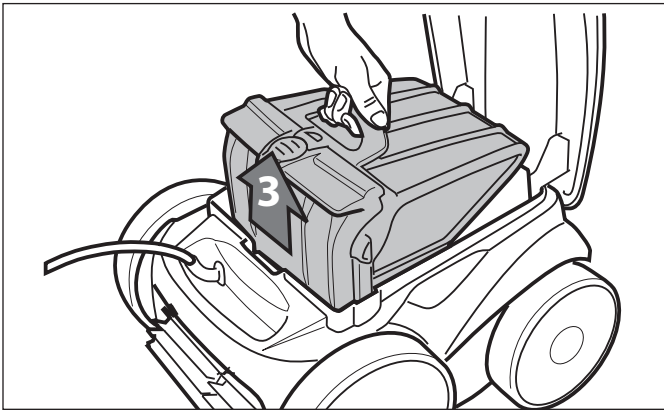

Figure 22. Remove Filter Assembly
6. Remove the filter assembly from the body (3), as shown in Figure 22.